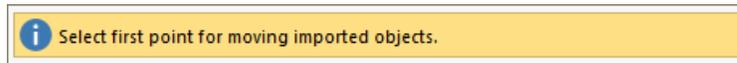

Figure 2-22
- Click the *OK* button. In the message bar the program will now ask the user to enter the Start Point for moving the imported DWG to its rightful position in the model as shown in **FIGURE 2-22**.